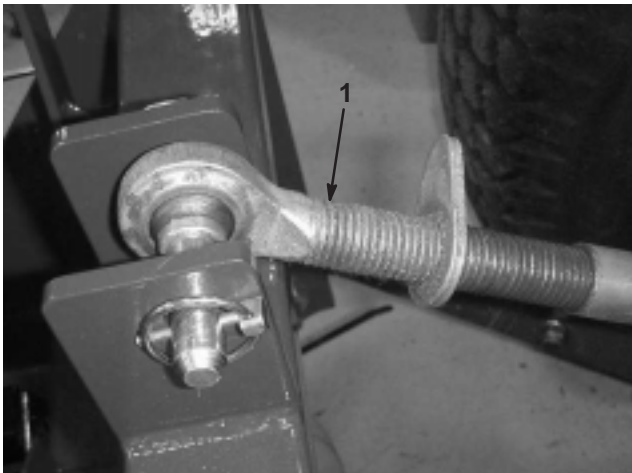

Figure 3
- 1. Connect the upper link to the holes in the blower bracket and secure it with a clevis pin and lynch pin (Fig. 3).